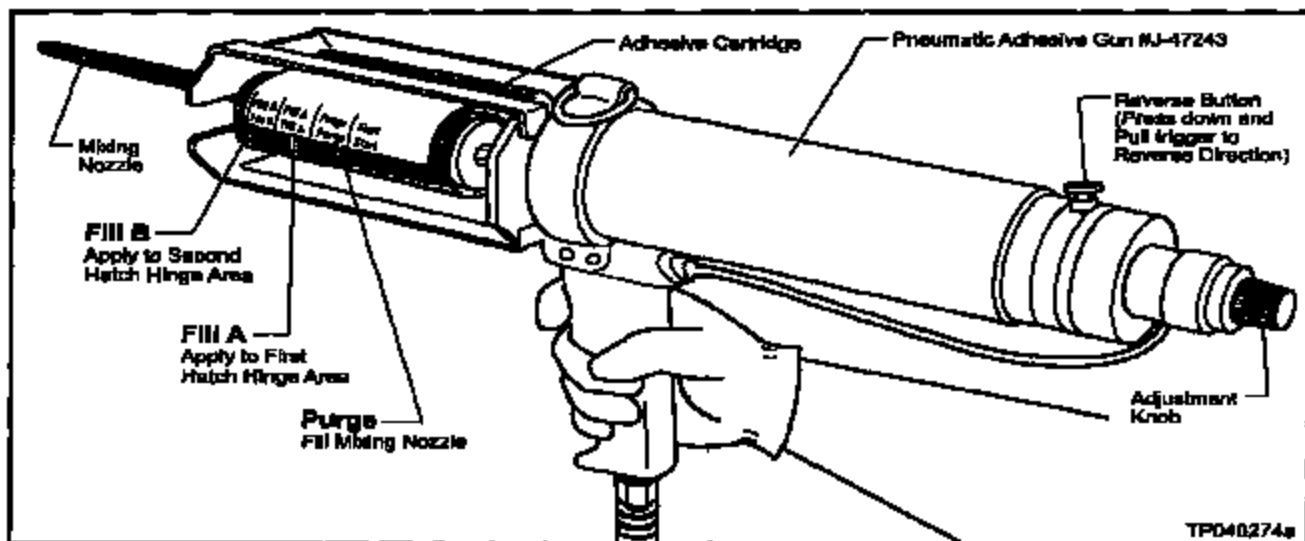

Figure A6
- c. Load the Adhesive Cartridge (with Mixing Nozzle) into the Pneumatic Adhesive Gun. See Figure A6.
- f. Slowly pull the trigger on the Adhesive Gun to fill the Mixing Nozzle with adhesive (until the "Purge" section of the Adhesive Cartridge is pushed into the Mixing Nozzle). See Figure A6.